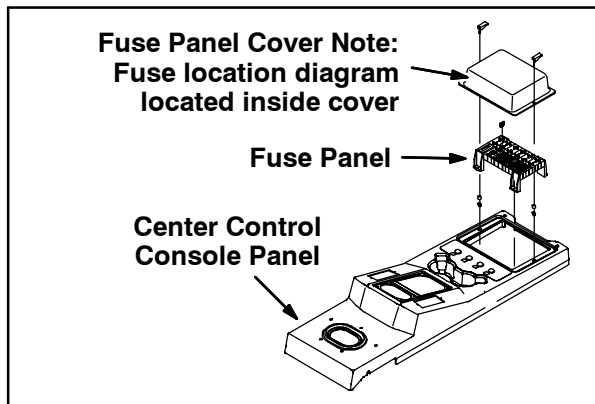

FIG. 8
11. Remove the fuse panel cover from the center control console panel. Set the fuse panel cover aside. Refer to Fig. 8.
12. Remove the hardware securing the fuse panel to the center control console panel and set the fuse panel next to the center control console panel. **Do not** disconnect the wire harness from the fuse panel. Set the hardware aside. Refer to Fig. 8.
13. Install the 20-Amp. fuse (5) into fuse box position FU-13 and the 5-Amp. fuse (12) into fuse box position FU-22. Refer to the label on the bottom of the fuse panel cover for fuse positions in the fuse box. Refer to Fig. 8 and Fig. 34.
48. Connect the cable from the arrow stick light to the arrow stick cable assembly (2).
50. Reinstall the fuse panel and fuse panel cover onto the center control console panel. Refer to Fig. 8.